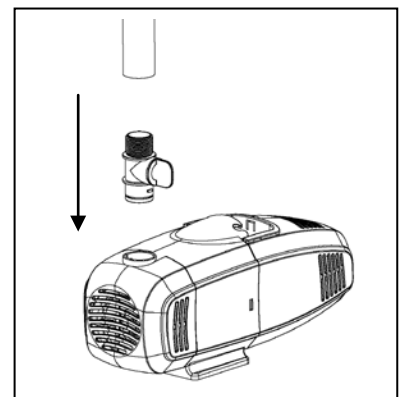

Fig. 1
1. Connect the adapter to the pump by inserting into the pump discharge and twisting clockwise. Then connect tubing to the adapter. Fig. 1